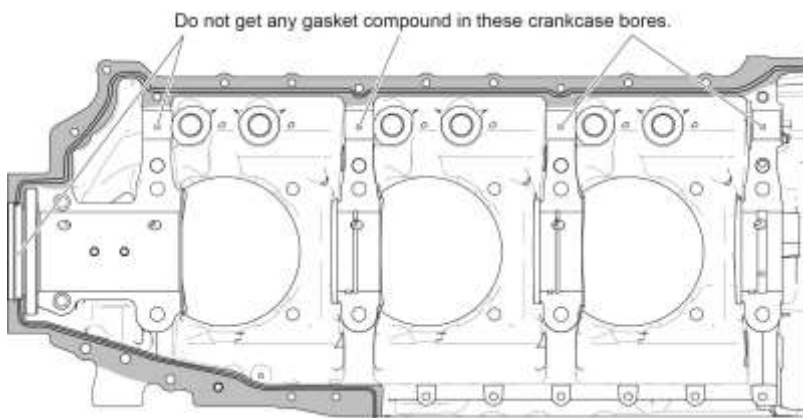

Figure 82
- (1) Apply a thin layer of non-hardening gasket material such as POB #4 Perfect Seal gasket compound or equivalent to the outside mating surfaces of each crankcase half (darker area shown in Figure 82.)
- (2) Measure and cut a total of four continuous lengths of "00" silk threads (four for only one crankcase half). Two of the lengths will extend along the entire length of the top of the crankcase flange as shown in Figure 82, and two silk thread lengths will be shorter to cover the distance shown on the bottom flange of the same crankcase half. Do not apply silk thread pairs to both crankcase halves.
⚠ CAUTION TO ENSURE CORRECT SEALING, MAKE SURE THE SILK THREADS RUN THE LENGTH, EACH THREAD AS A CONTINUOUS PIECE, OF THE INSIDE OF THE CRANKCASE FLANGE (FIGURE 82) AND THERE ARE NO BREAKS IN ANY OF THE THREADS. BREAKS IN THE SILK THREAD CAN CAUSE THE CRANKCASE TO LEAK.
- (3) Press two lengths of "00" silk threads in the gasket compound on the top and bottom flange sides (of the crankcase half) (Figure 82) firmly in the gasket compound where both silk threads are oriented in the area between the bolt holes and the inside flange edge of the crankcase half (approximately between 0.020 to 0.040 in. (0.508 to 1.106 mm)) apart as shown in Figure 83. Make sure that the silk thread lengths do not touch or cross over one another or cover a bolt hole.